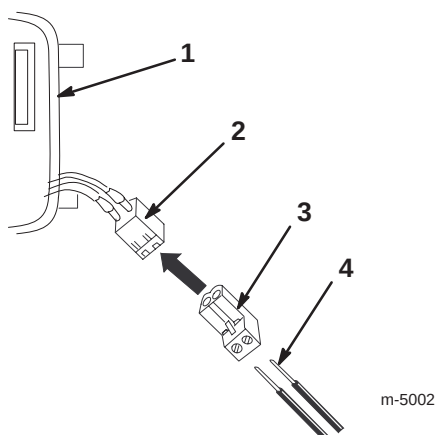

Figure 13
Note: If you temporarily mount the perimeter switch, disconnect the perimeter wire connector from the perimeter switch (Fig. 13) after the lawn mower has completed mowing, and store the perimeter switch indoors in a safe place out of the reach of children.
1. Strip 1/4 inch (6 mm) of insulation from each wire end (Fig. 13).
2. Insert one end of each perimeter wire into each hole of the wire connector (Fig. 13).
4. Connect the wire connector to the switch connector (Fig. 13), making sure that the perimeter wire from the perimeter switch to the ground is taut and at least five feet (1.5 meters) away from the lawn edge (Inset 5 in Fig. 4).